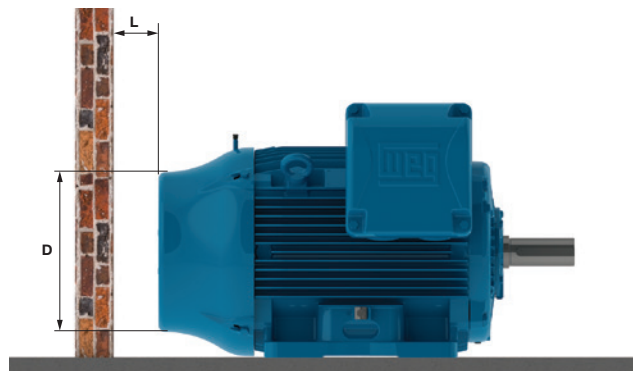

Figure 50 - Minimum clearance to the wall
- Ensure that the air inlet and outlet opening are not blocked. The minimum clearance to the nearest wall (L) should be at least ¼ of the fan cover diameter (D), see Figure 50. The intake air temperature must be at ambient temperature.